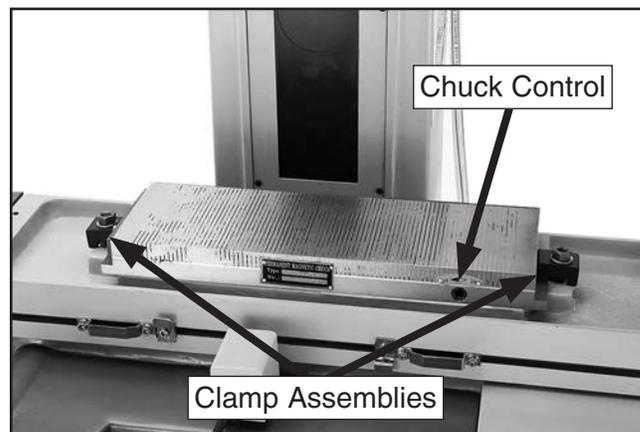

Figure 23. Magnetic chuck attached to table.
- With help from another person, position magnetic chuck in center of table with chuck control facing front, as shown in **Figure 23**.
- Secure magnetic chuck to table with (2) clamp assemblies, as shown in **Figure 23**.